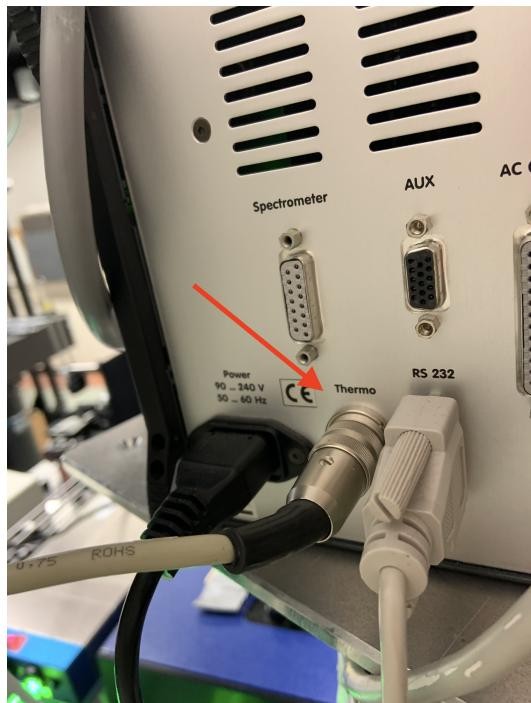

FIGURE 3 – Back of the OPO monitor. The *Thermo* cable should be unplugged and plugged before turning on the monitor.
3. At the back of the OPO monitor, disconnect the cable *Thermo* (Fig. 3).